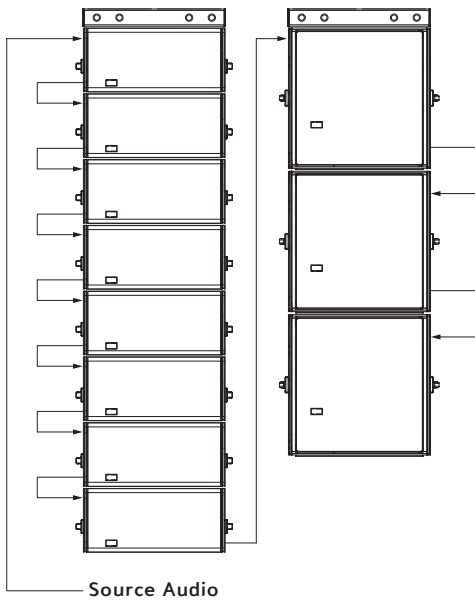

Figure 2: Flown Separate Arrays
- Flown separate arrays of LEOPARDS and 900-LFCs (Figure 2)